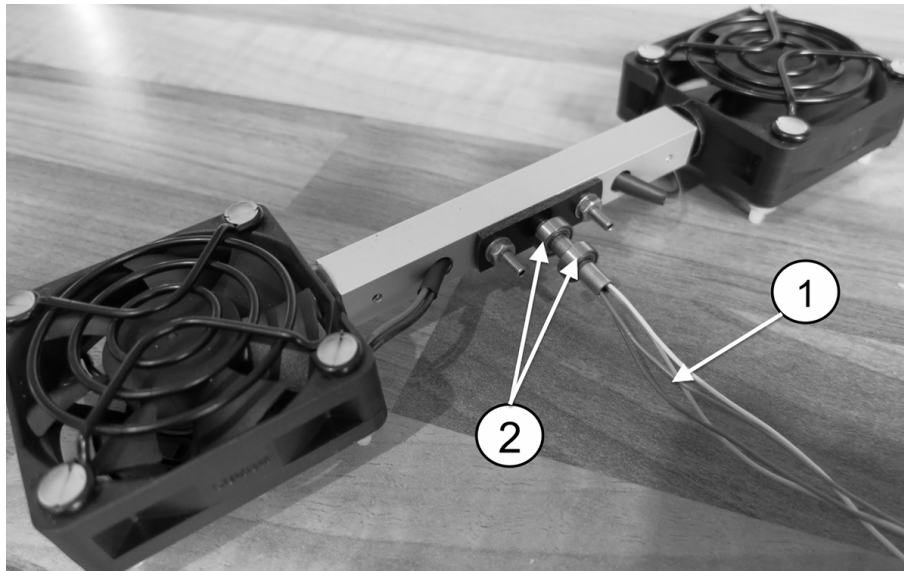

Figure 1: Photo of the pitch-beam sub-assembly, showing (1) the fan wires emerging from a hollow brass insert, and (2) miniature ball-bearings.
1. The motion about the pitch axis on most of the helicopters displays a damped oscillatory response when released from rest and from a nonzero initial condition of pitch axis angle. Briefly explain the physical source of this response. You may wish to refer to Figure 1. (10 marks)